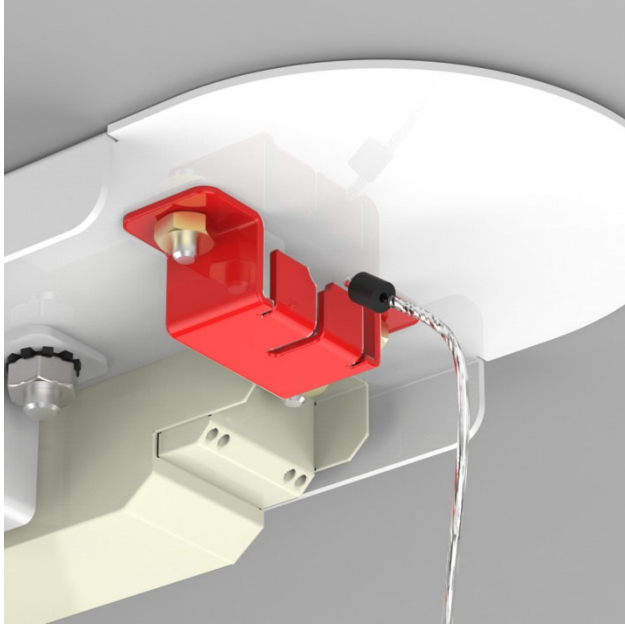

Figure 7
- Feed barrel-end of cable into gap at top of support bracket (shown red). (Figure 7)